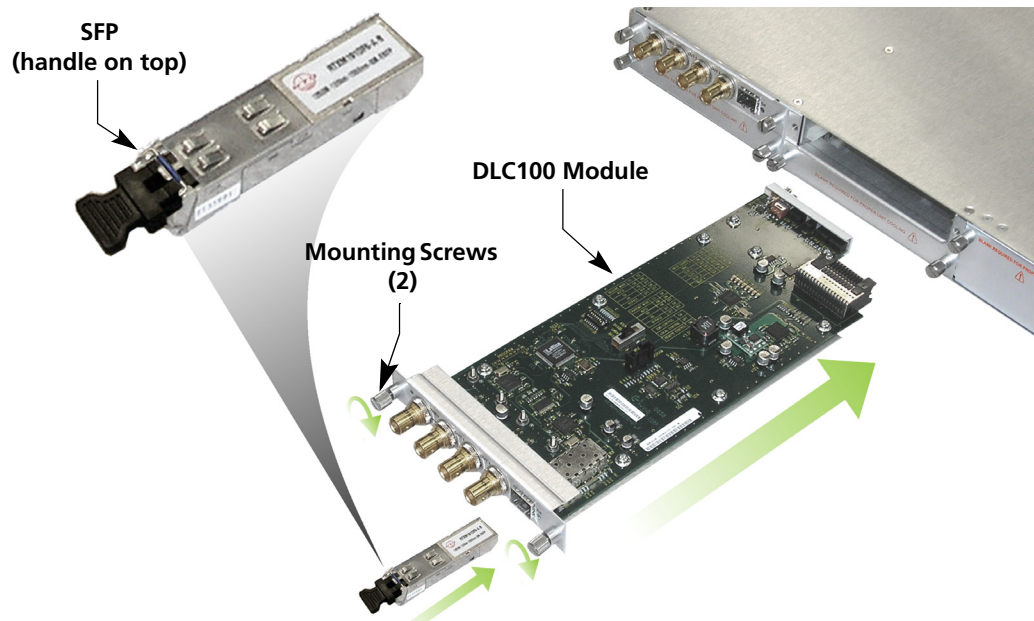

Figure 5. DLC100 Module and SFP Installation
To install the DLC100 in the host chassis, perform the following steps (see Figure 5):
5. Install the SFP into the DLC100 (handle on top as shown in Figure 5). Push the SFP into the socket located on the right side of the function module until it is firmly seated into the socket.